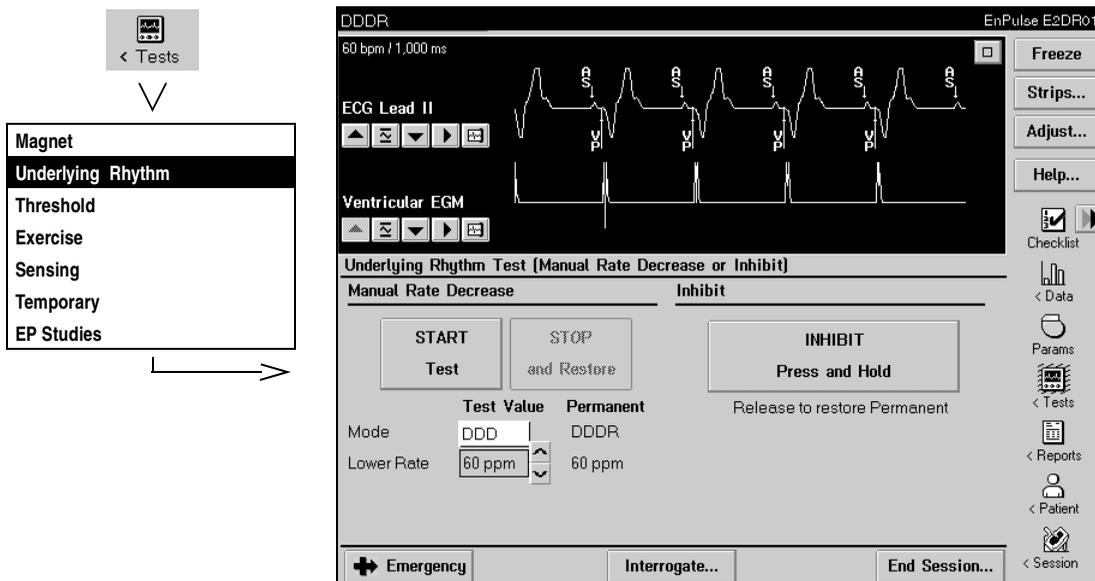

Figure 3-10. Underlying Rhythm Test screen
1. Display the Underlying Rhythm Test screen (see Figure 3-10 on page 3-30).